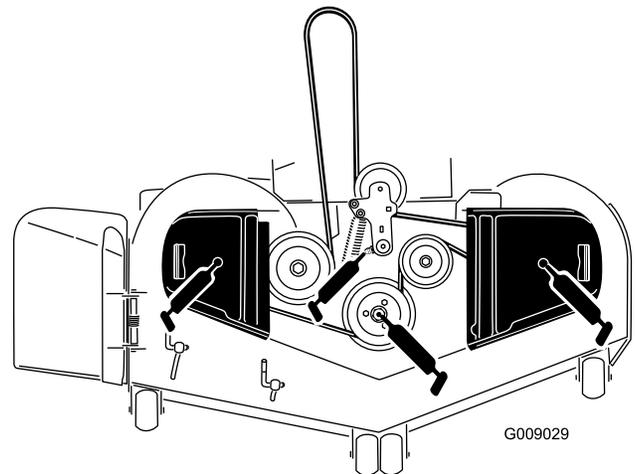

Figure 44
3. Grease the mower deck idler pulley pivot until grease come out the bottom (Figure 44).
4. Grease the fittings on the top of the 3 spindle bearings until grease comes out (Figure 44).
5. Grease the drive belt idler arm (Figure 44).